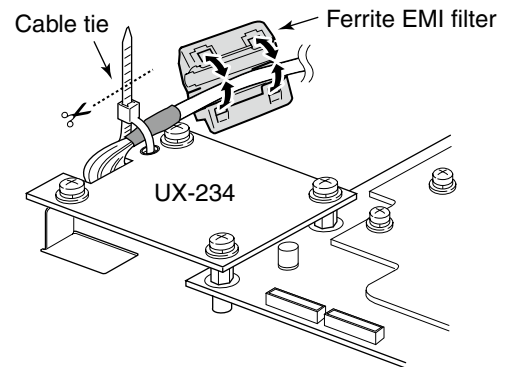
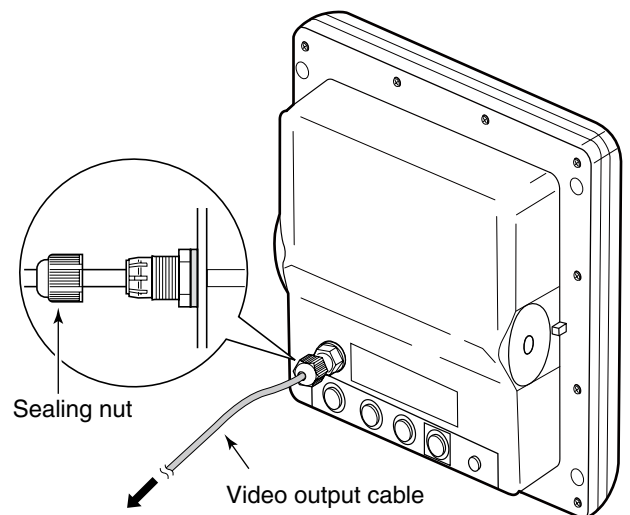

Fig. 5
Fig. 6
- ⑦ Secure the cable to the UX-234 with a cable tie. (Fig. 5)
- ⑧ Clamp the cable with the ferrite EMI filter attached near the UX-234. (Fig. 5)
- ⑨ Reconnect the four connectors to the display's main board.
- ⑩ Replace the gasket, rear case, and screws their original position.
- ⑪ Adjust the video output cable length and then tighten the sealing nut. (Fig. 6)